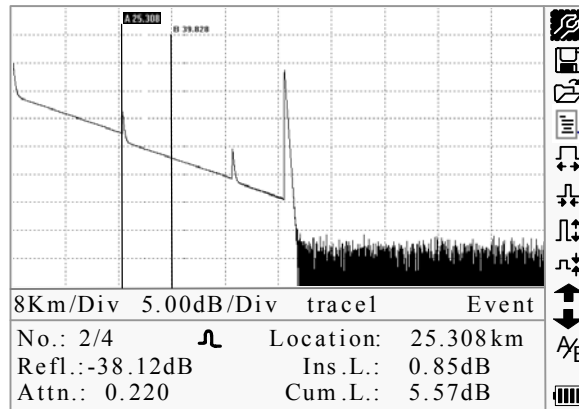
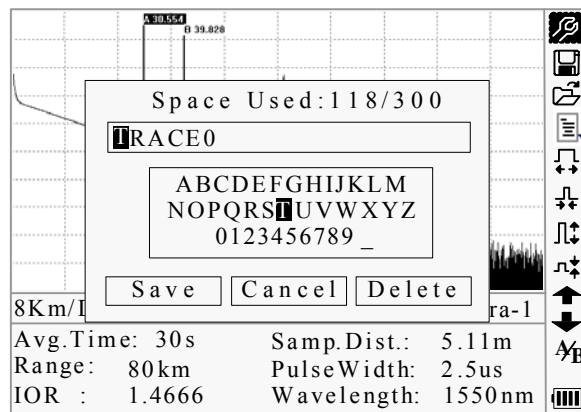
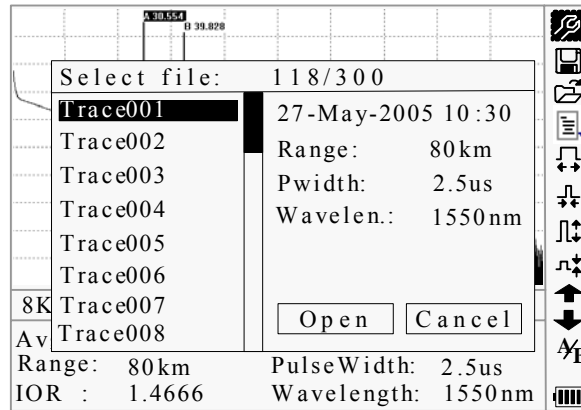

Figure 4-4. Trace Measurement of palmOTDR
Figure 4-5. Save Trace
Figure 4-6. Browse Saved Traces
- After a certain period of time, the trace displays on the GUI. The trace in the Figure below is a trace during measurement, which will be refreshed for every certain period of time to demonstrate the whole process to users in real time. But at the end of measurement, the trace will be final, as shown in Figure 4-4.
Under GUI of Figure 4-4., press [>] and the items of information window will display in circulation: measurement parameter→ analysis information→ Event list→ information of marker A/B →fiber →measurement parameter.
Under GUI of Figure 4-4, press [>], items in information window will switch to event list information.
Under GUI of Figure 4-4., use [>] and [>] to highlight ^{A/B}, then press [Enter] to switch between marker A/B.
Under GUI of Figure 4-4., press [>] switch information window to marker A/B.
- Under GUI of Figure 4-4.,use [>] and [>] to highlight >, then press [Enter] to zoom in trace horizontally; or to zoom in trace horizontally by the combining hot key [Shift/⌘]+[>] in the keyboard
Under GUI of Figure 4-4., use [▲] and [▼] to highlight , and press [Enter] to zoom out trace. or to zoom out trace horizontally by the combining hot key [Shift/⌘]+[◀] in the keyboard.
- Under GUI of Figure 4-4, press [▲] and [▼] to highlight , then press [Enter] to zoom out trace vertically. or to zoom out trace vertically by the combining hot key [Shift/⌘]+ [▼] in the keyboard.
- Under GUI of Figure 4-4., use [▲] and [▼] to highlight , then press [Enter] to enter, as shown in Figure 4-5.
Under GUI of Figure 4-4, use [▲] and [▼] to highlight , press [Enter] to confirm, as shown in Figure 4-6.